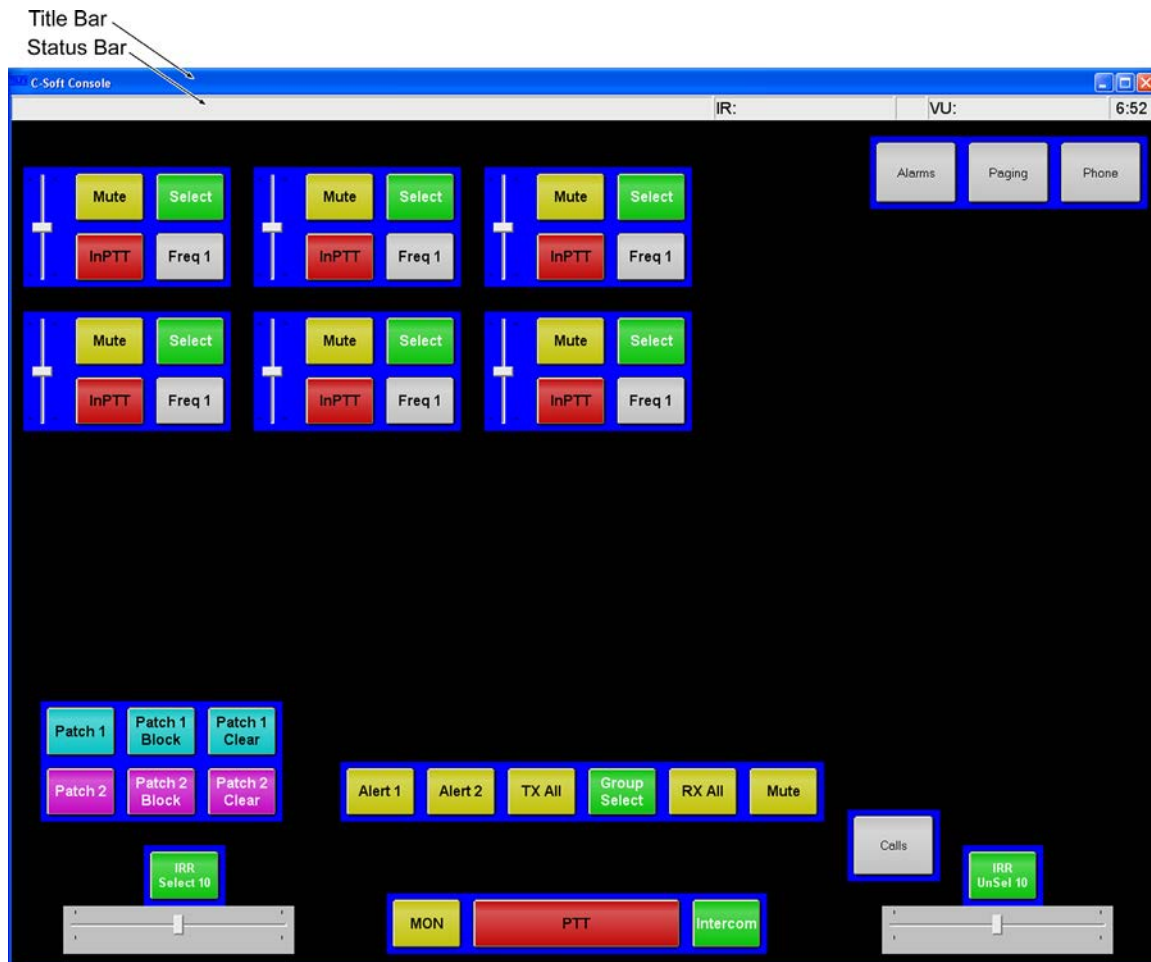

FIGURE 201. C-Soft Console Window
When the C-Soft Runtime program is started, the C-Soft Console displays the console design. A six (6) line console design, along with several other user interface elements is shown in Figure 201.